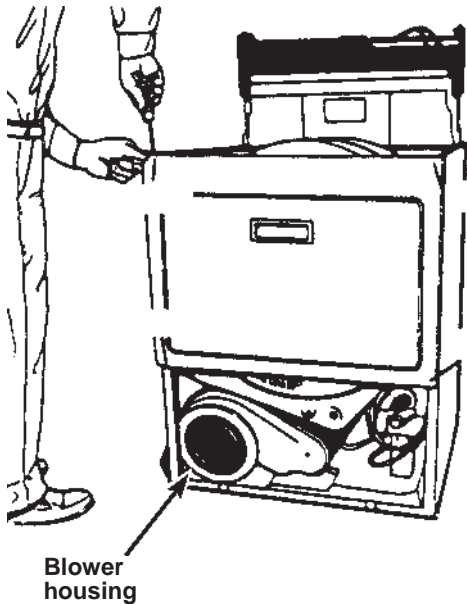

Figure 5
5. Remove two (2) screws attaching the lint duct to the dryer, remove lint duct.
6. Remove two (2) screws at the bottom and the two (2) screws at the top of the front panel. Lift up and remove the front panel. See Figure 5.